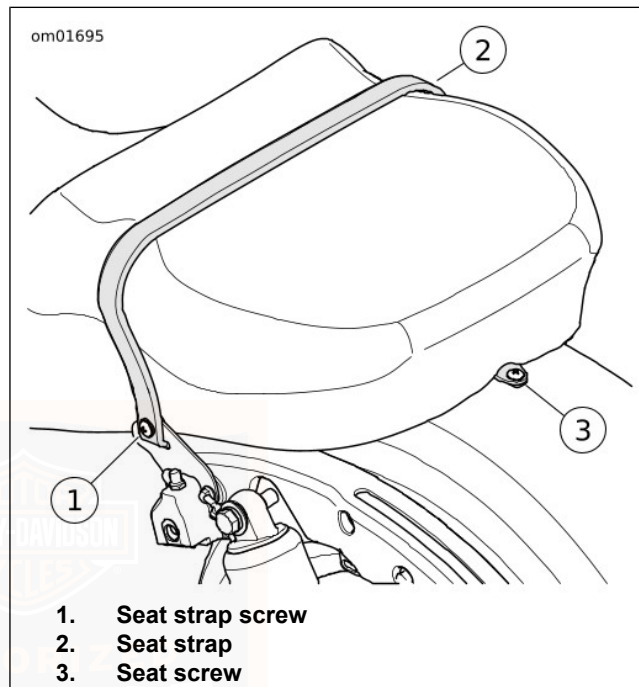

Figure 102. Seat Strap Screw
3. See Figure 102. Remove screw to release seat strap from bracket.
2. See Figure 102. Secure seat bracket to rear fender with screw. Tighten screw to 5.4–8.1 N·m (48–72 in-lbs).
5. See Figure 102. Insert strap in slot on seat strap bracket.